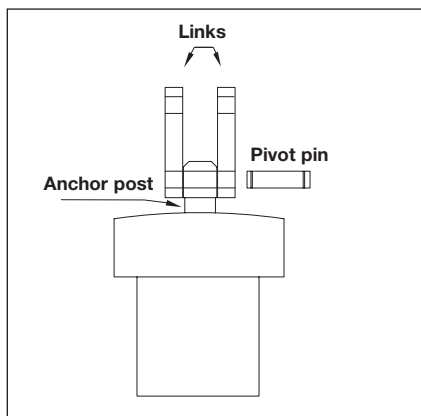

Figure 3
Line up the two (2) links with the hole in the anchor post. Insert one (1) of the long pivot pins through the links and the anchor post. Secure the pivot pin in place using two (2) of the supplied E-clips (Figure 3).